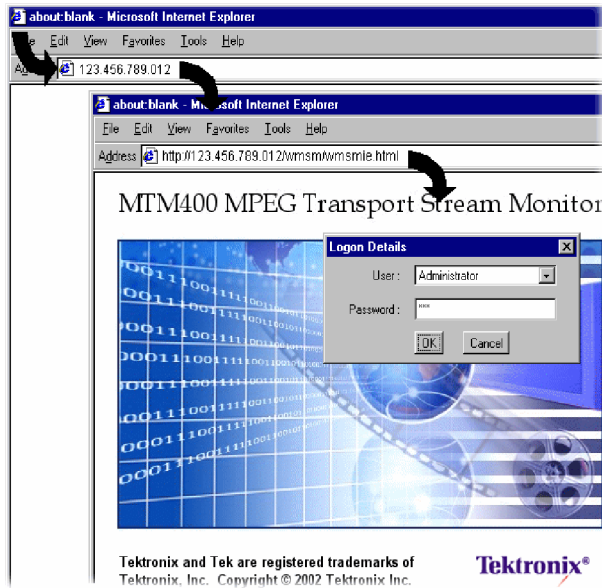

Figure 20: Logging in to the monitor (RUI v2.6.1 and below)
3. After the Java applet is downloaded, the monitor splash screen will appear, and then be quickly overlaid by the Login Details dialog box. (See Figure 20.)